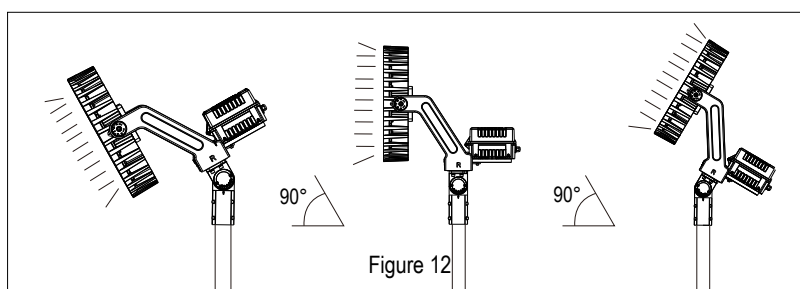

Figure 12
3. Use an open-end wrench and hex wrench to loosen the adjustment screw for angle modification (Figure 12).